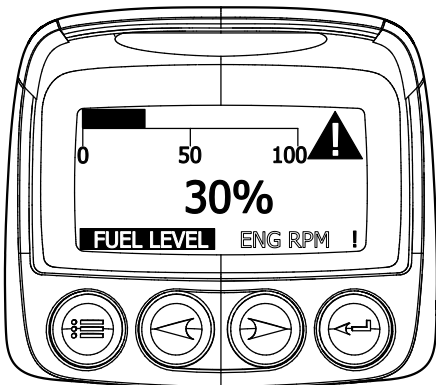

Figure 16. Fuel Gauge
2. Turn the ignition key to the start position and read the fuel gauge to determine if the engine fuel level is low (Figure 16).